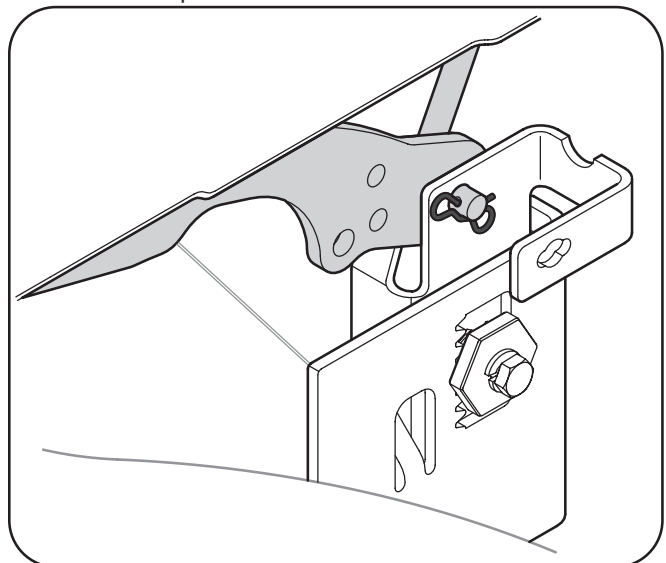

Figure 7-3 - 42" & 46" Deck
6. **On 42" & 46" Decks:** Looking at the cutting deck from the left side of the tractor, remove the bow-tie cotter pin securing the deck lift rod to the deck. Slide the deck lift rod from the mounting weldment on the deck as seen in Fig. 7-3. Repeat on the tractor's right side.